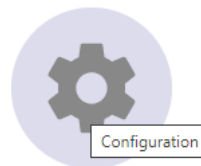

Figure 3-9. Configuration Page Icon
3. Click the *Configuration* icon shown in Figure 3-9 (also available on the left-side menu) to select the number of TMAG3001EVMs on the I2C bus, as well as select which pin the ADDR pin is tied to.